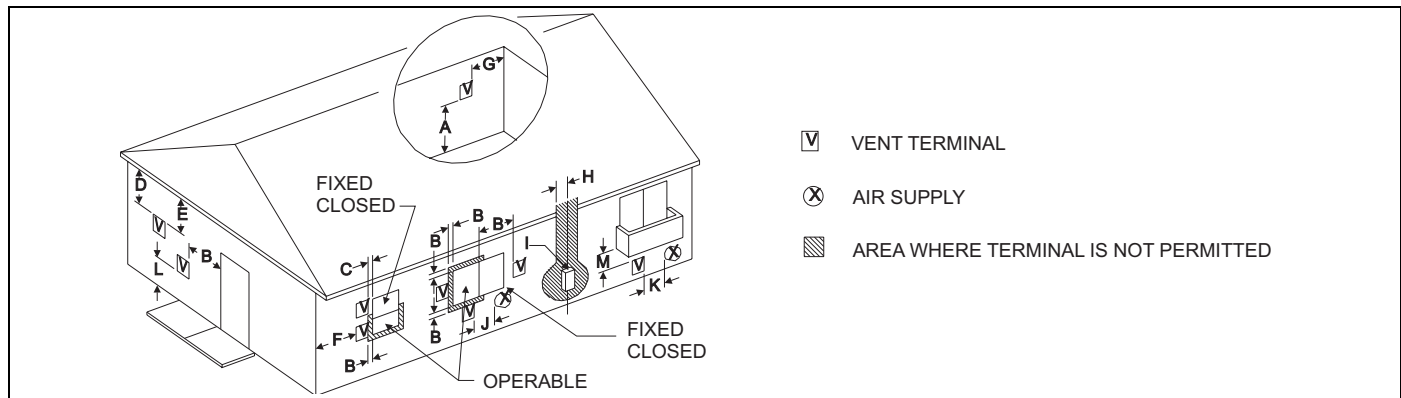
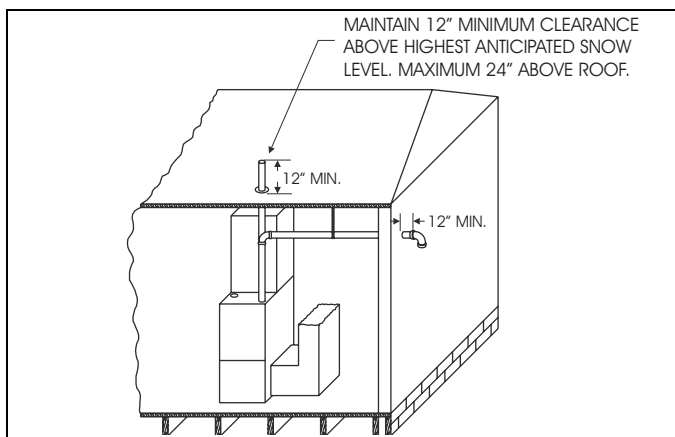
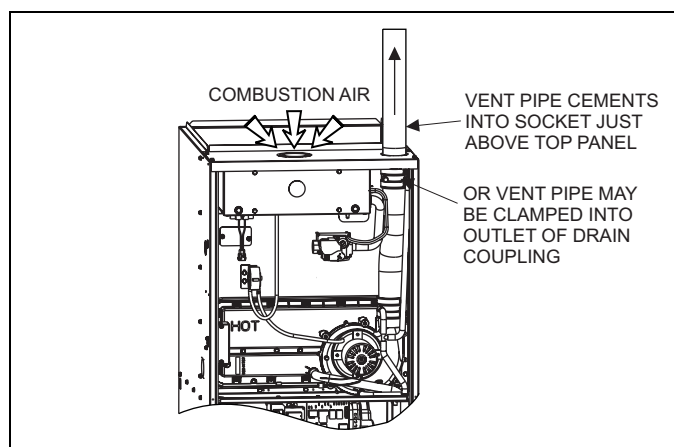

FIGURE 13: Home Layout
FIGURE 14: Termination Configuration - 1 Pipe
FIGURE 20: Combustion Airflow Path Through The Furnace Casing
The combustion air side of the single pipe configuration shown in Figure 20 is referred to in these instructions as ambient combustion air supply. Follow the instructions for ambient combustion air installations, paying particular attention to the section on air source from inside the building. The vent for a single pipe system must be installed as specified in the venting section of these instructions with the vent terminating as shown in Figure 14. Each furnace must have a separate vent pipe. Under NO circumstances can the two vent pipe be tied together.
2. **AMBIENT COMBUSTION AIR:** Combustion air is supplied from the area surrounding the furnace through vents or knockouts in the furnace casing. The combustion air and the vent pipes are not terminated in the same atmospheric zone. Refer to Figure 13 for vent terminations. Refer to "AIR SOURCE FROM INSIDE THE BUILDING" and "VENT AND SUPPLY AIR SAFETY CHECK" for proper installation. Refer to Figure 20.
This type installation will draw the air required for combustion from within the space surrounding the appliance and from areas or rooms adjacent to the space surrounding the appliance. This may be from within the space in a non-confined location or it may be brought into the furnace area from outdoors through permanent openings or ducts. It is not piped directly into the burner box. A single, properly sized pipe from the furnace vent connector to the outdoors must be provided. For upflow models combustion air is brought into the furnace through the unit top panel opening. Do not install a pipe into the intake collar on top of the burner box. Refer to Figure 20.